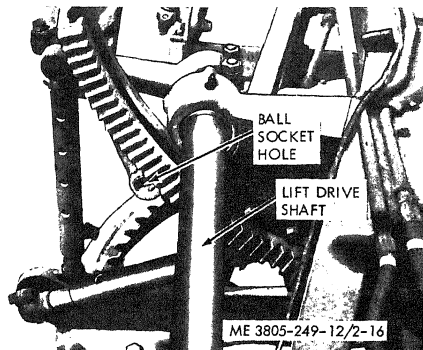
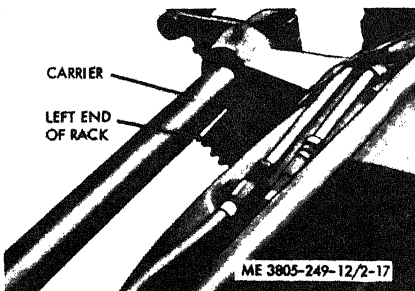

Figure 2-16. Sideshift rack set for right hand leveling.
Figure 2-17. Centershift rack set for left hand leveling.
(a) Set the sideshift rack so that the left ball socket hole is just left of the left lift drive shaft as shown in figure 2-16.
(a) Set the centershift rack so that the left end is even with the left end of the carrier as shown in figure 2-17.
- (7) *Right hand ditch cleanup.*
- (a) Set the sideshift rack so that the left end is even with the left end of the carrier (fig. 2-17).
- (8) *Left hand ditch cleanup.*
- (a) Set the sideshift rack so that the left ball socket hole is just left of the left lift drive shaft (fig. 2-16).